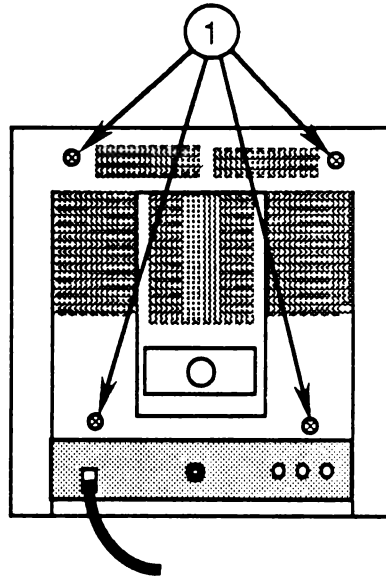

FIGURE 9
4. Remove the four screws (Figure 9, #1) from the back of the monitor.